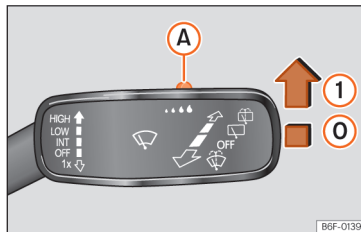

Fig. 109 Windscreen wipers lever: adjust the rain sensor (A).
Push the lever to the desired position >>> Fig. 109.
- ① Rain sensor active; automatic wiping if necessary.
When the ignition is switched off and then back on, the rain sensor stays on and starts operating again when the windscreen wipers are in position >>> Fig. 109 ① and the vehicle is travelling at more than 16 km/h [10 mph].